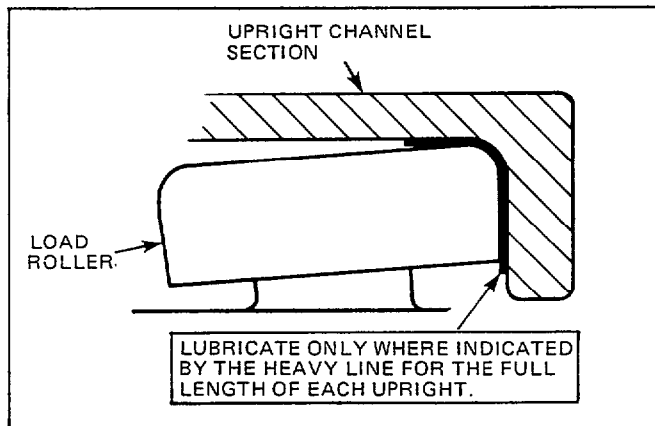

Figure 35. Mast Lubrication (typical)
1. Lubricate the full length of each upright channel with chassis lube or Kendall SR-12X (Cascade part no. 599474) as shown in Figure 35.